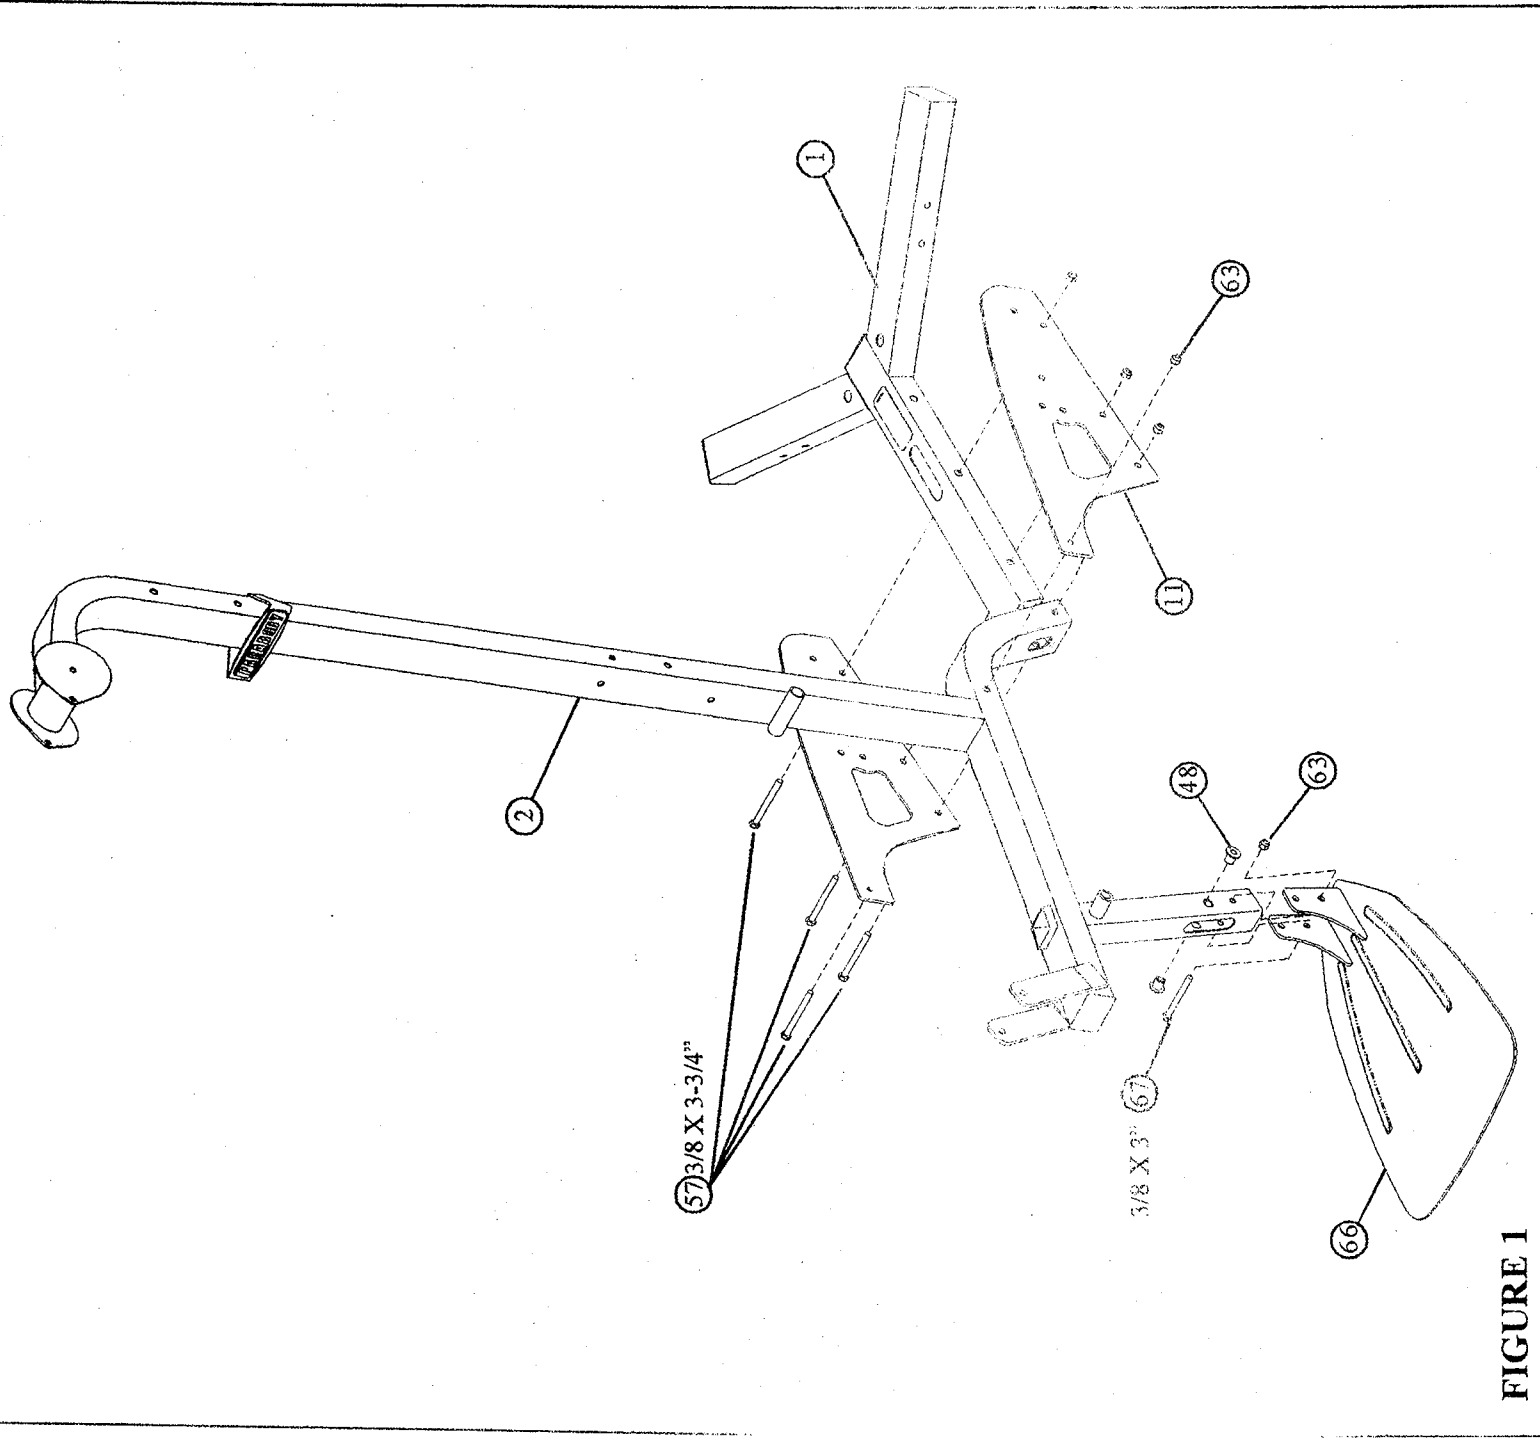

FIGURE 1
- LOOSELY assemble two BASE PLATES (11) to the BASE (1) and the UPRIGHT (2) using four 3/8 X 3-3/4" BOLTS (57) and four 3/8" LOCK NUTS (63). See FIGURE 1.
- Insert two 3/8 X 9/16" FLANGE SPACERS (48) into the upper hole of the FRAME (2) as shown.
- LOOSELY assemble the FOOTPLATE (66) to the FRAME (2) using one 3/8 X 3" BOLT (67) and one 3/8" LOCK NUT (63) as shown in FIGURE 1.